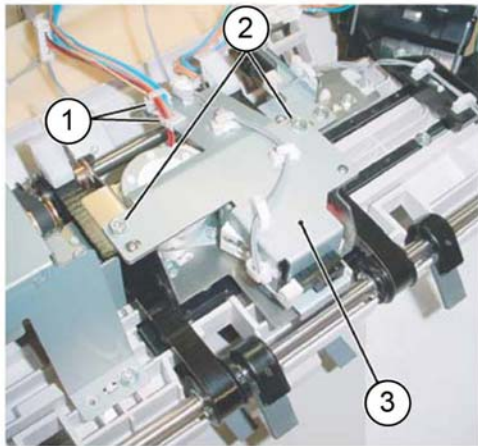

Figure 1 Bracket assembly removal
2. Remove the bracket assembly, Figure 1:
- a. Release the harness from the two clamps (1).
- b. Remove two screws (2).
- c. Remove the bracket assembly (3).